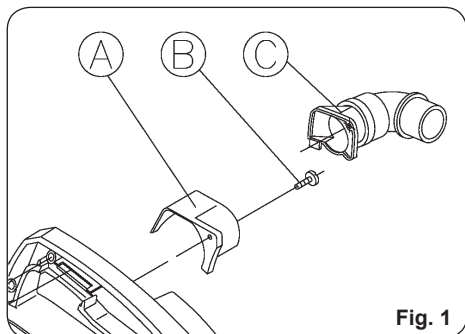

Fig. 1
The machine is equipped with a dust collector connection which can be used for connection to our AS182K, AS282K dust collector or any industrial equivalent via the STANDARD DUST COLLECTOR ATTACHMENT (ref. 6446073). For assembling the dust collector connection, remove the chips outlet guide A (Fig. 1) using screws B and fit the dust collector connection in its place.